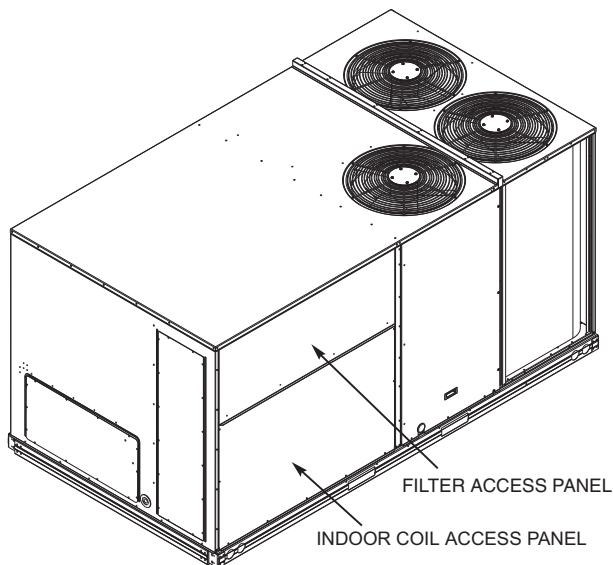

Fig. 13 — Typical Access Panel Locations
2. To gain access to the hood, remove the filter access panel. (See Fig. 13.)